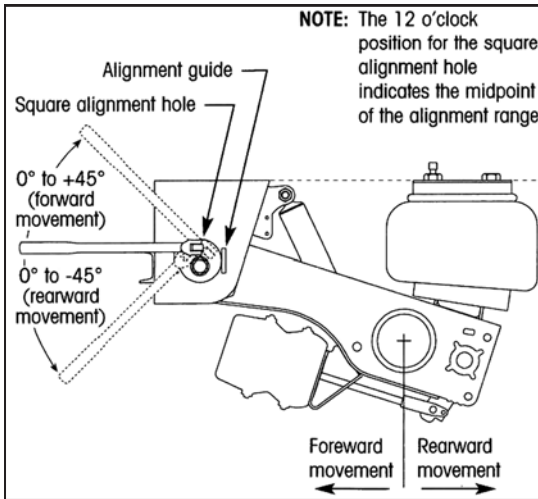
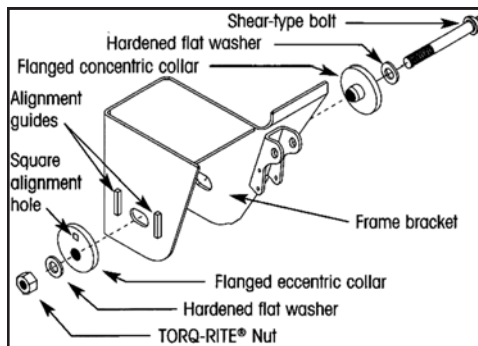

Figure 18. Quick-Align Operation
Figure 19. Pivot Connection Assembly
10. The **QUIK-ALIGN**[®] style pivot connection uses two flanged collars inserted into slots on each side of the frame bracket (Figure 19). The eccentric collar on the outboard side of the frame bracket is used to adjust the position of the axle during an alignment. The alignment guides on the side of the frame bracket limit the eccentric collar to rotational movement in the frame bracket slot. Rotating the eccentric collar clockwise causes the axle to move forward. Rotating the eccentric collar counterclockwise causes the axle to move rearward (Figure 18). The maximum range of adjustment is ± 45 degrees from the 12 o'clock position.
11. Using an E20 Torx socket, tighten the shear-type bolt axle pivot connection until the Torx head shears off. This ensures the proper torque of 550 ft. lbs. (± 45 ft. lbs.). Pivot bolts must be replaced when trailer is aligned. **DO NOT** attempt to reuse old pivot bolts. Assembly of pivot connection shown below (Figure 19).